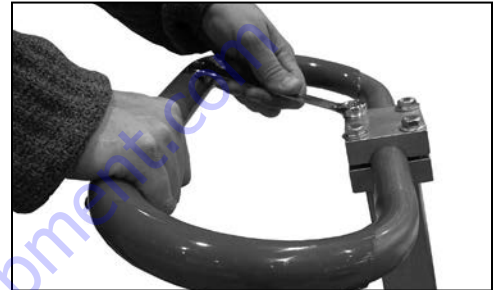

FIG. 1.1
2. Adjust handle grip to desired angle and firmly secure (Figure 1.1).